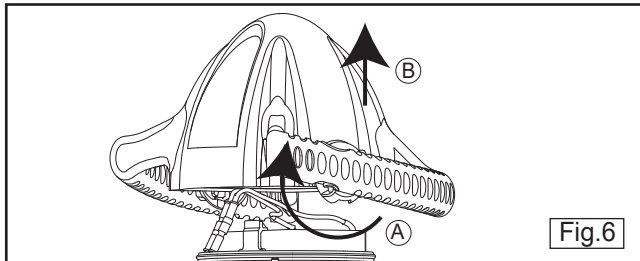

Fig.6
3. Unclip the latches and remove the Nose Cone (see fig. 6).